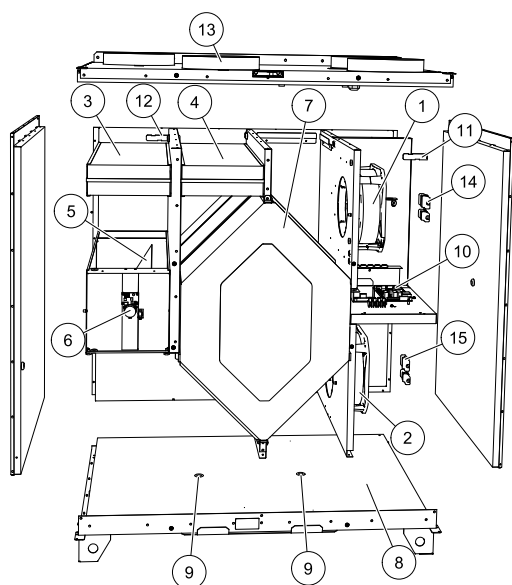

Fig. 15 Components
The fans (pos. 1 and 2 figure 15) have external rotor motors of EC type which can be steplessly controlled individually 20–100%. The motor bearings are life time lubricated and maintenance free. It is possible to remove the fans for cleaning, see “User Manual” for more information.
The built in bypass damper (pos. 5 figure 15) is involved in defrosting, cool recovery, and supply air temperature regulation of the unit. The damper motor is controlled by an analogue 0–10 V signal.
Depending on the relative humidity in the extract air, condensation may occur on the cold surfaces of the heat exchanger. The condensate water is gathered in the condensation tray (pos. 9 figure 15) in the bottom of the unit and is led out through the drainage (pos. 10 figure 15) which are situated on each side of the heat exchanger. The drainage outlets are size ½” with outer threaded tube connections (chapter 4.3.1).
The main print card (pos. 10 figure 15) controls the functions and set temperatures of the unit. It is possible to connect external accessories to terminals in the print card. See wiring diagram for more information.
- Supply air sensor (pos. 11 figure 15)
- Outdoor air sensor (pos. 12 figure 15)
- Extract air sensor (pos. 13 figure 15).
Fans do not start	<ol style="list-style-type: none"> 1. Check the display for alarms. 2. Check that all fuses and fast couplings are connected (mains supply and fast couplings for supply and extract air fans, pos. 16 figure 15). 3. Check that the week program is in ON mode. The week program might be in OFF mode with the fan speed set to OFF (chapter 6.3). 4. Check if one of the digital inputs 1–3 (DI 1–3) is active and set to off. This would force one or both fans to stop depending on the setup (chapter 6.4).